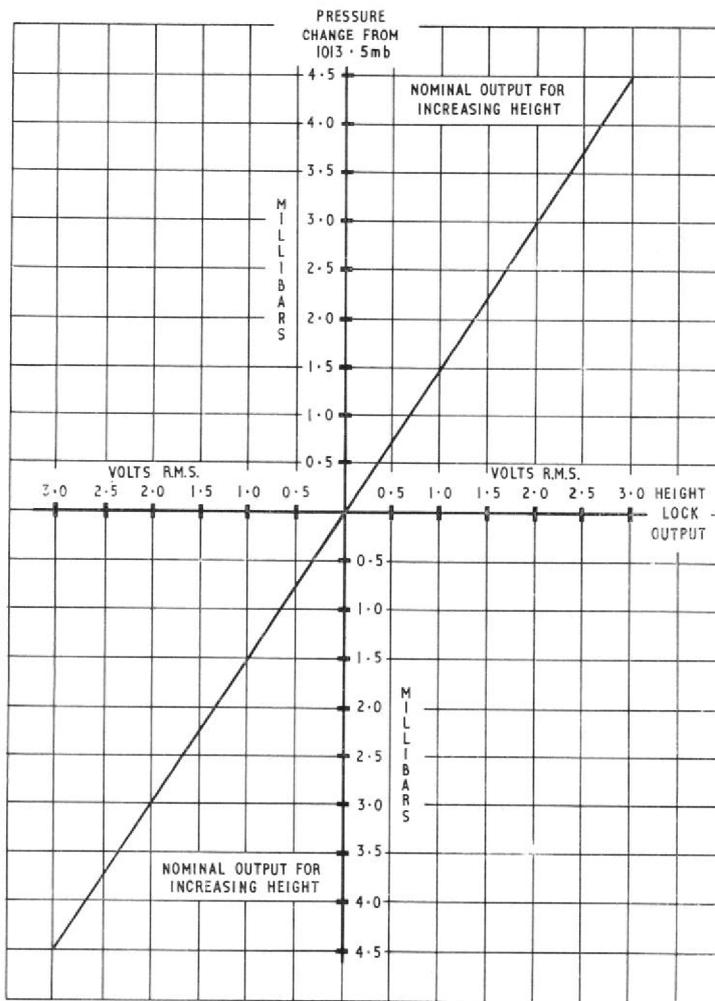

Fig. 2. Nominal height lock outputs
(9) Set S2(HLTP) to SERVO. Allow transducer servomechanism to settle then return S2 to the BAROMETRIC position.
(10) Increase the static pressure to the transducer from 1013.5 mb to 1017.5 mb, recording the readings obtained on the valve voltmeter for every 0.5 mb.
(11) Ensure that the signal continues to increase in the correct sense when the static pressure is increased beyond 1017.5 mb to 1019 mb and that saturation does not occur before an output voltage of 3.5V is obtained.
(12) Plot the outputs recorded in sub-para. (5) and (10) on a graph as in fig. 2. The positive and negative slopes must be within 5% of each other. The output must be  $2.72V$  r.m.s.  $\pm 5\%$ , at 1009.5 mb and 1017.5 mb.
(13) Return the pressure on the static input of the transducer to the prevailing atmospheric pressure.
(14) Set S2 (HLTP) to SERVO.
(15) Disconnect the hose from the STATIC input adapter on the transducer.